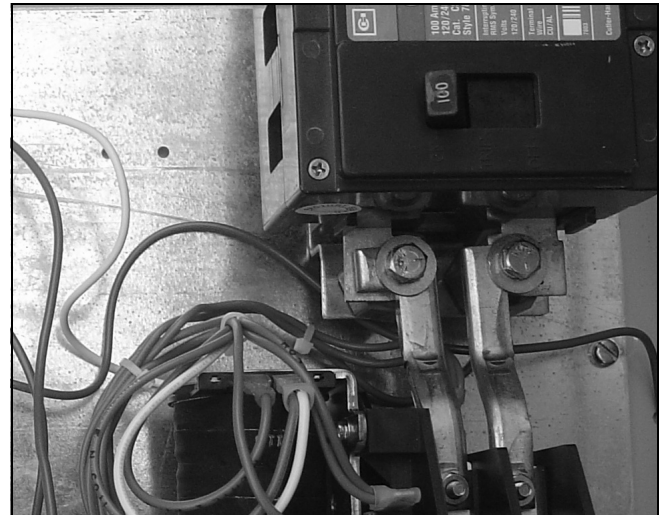

Figure 50. Utility Bus Extension on a 100 A SE ATS.
Step 4: Remove the hardware securing the utility bus extensions to the contactor and SE Breaker. Remove the utility bus extension (see Figure 50).
Step 12: Align the utility lug extension with the SE breaker and contactor. Secure the utility bus extension to the SE breaker and contactor using the original hardware (see Figure 50).